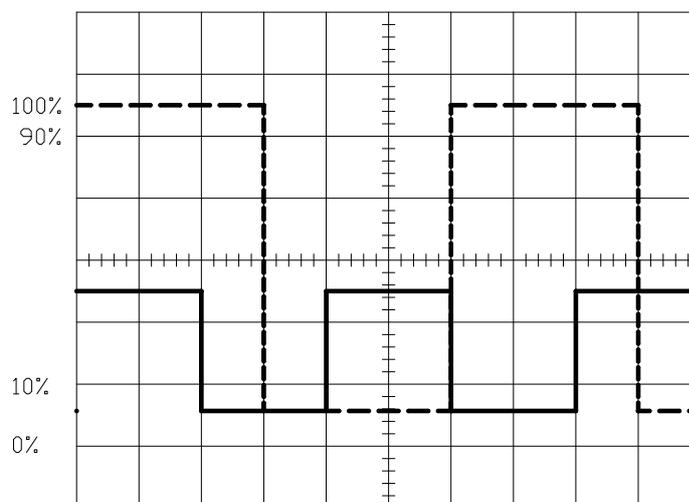

Fig.5-5
- (1) Feed in the reference signals into CH1 or CH2. Set the selected channel to VERT.
- (2) Adjust the voltage attenuator and the variable to make the displayed amplitude be 5 divisions vertically, from 0% to 100% in scale.
- (3) Keep the original setting of the voltage attenuator and the variable and switch the probe from the reference signal to the compared signals. Adjust the vertical position to make the wave bottom directly to the 0% scale on the screen.
- (4) Adjust the horizontal position to keep the wave top on the vertical scale in the center of the screen.
- (5) Read out the percentage (1 division equals to 4%) from the vertical coordinate in the center of the screen according to the 0% & 100% percentage standard on the left screen.
- For example: In Fig. 5-5, the dashed line indicates the reference signal and the real line indicates the compared signals. The vertical amplitude is 2DIV, so the amplitude would be 40% of the reference signal.